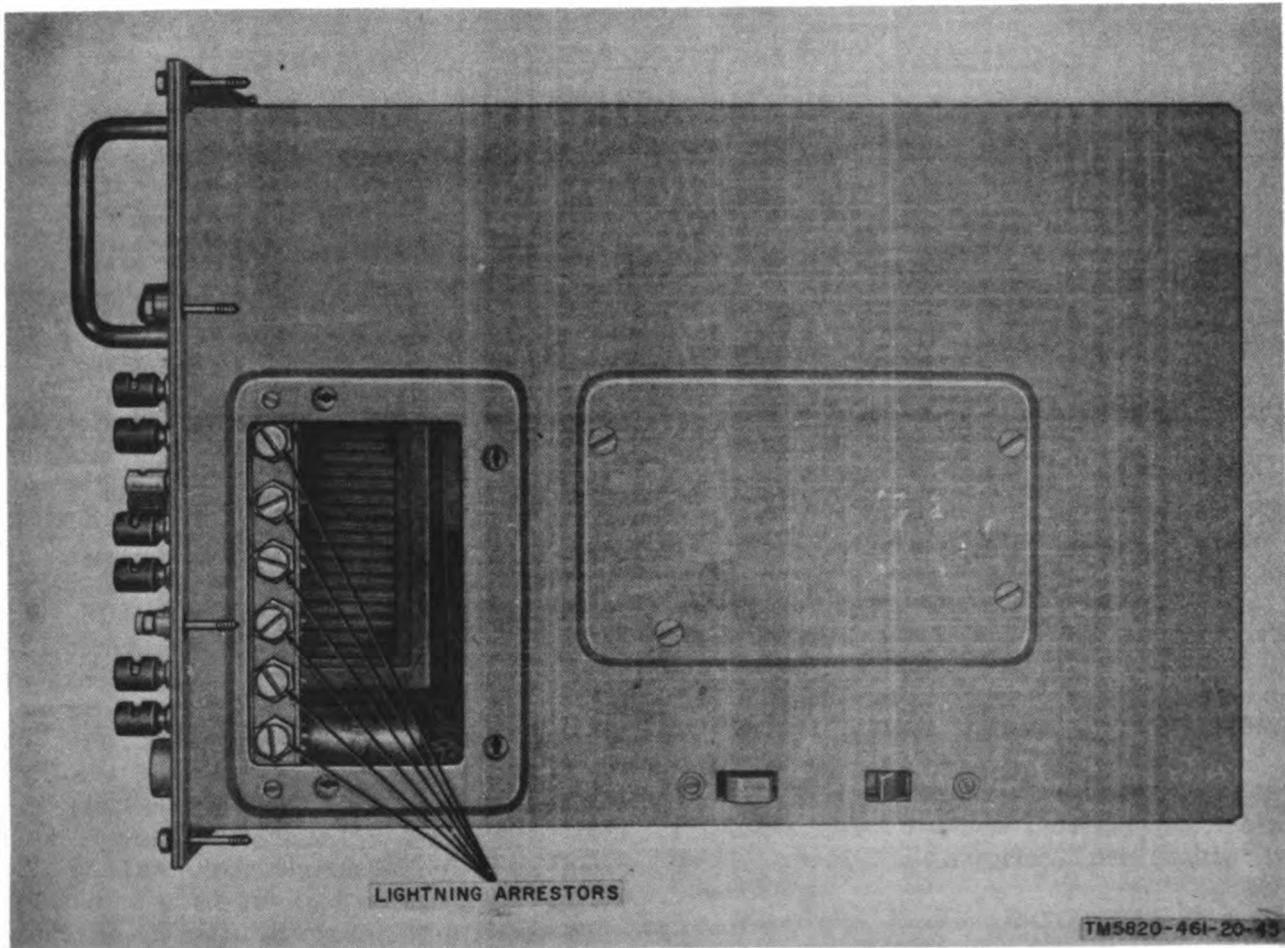

Figure 5-18. R-1148(P)/GRC or R-1331(\*)(P)/GRC,
Replacement of tube V1, V2, or V3 in the amplifier-oscillator, replacement of the amplifier-oscillator, tube current regulator assembly 2A6, or tube V4 in PP-2054(\*)/GRC will require adjustment of regulator resistors R14, R15, and R16. Refer to paragraph 5-13b for the procedures. Replacement procedure for plug-in assemblies is given in a below. Receiver lightning arresters protecting the fdm cable circuits are located at the input to baseband assembly 3A3 in the receiver (fig. 5-18). Procedures for their replacement are given in b below.
- (1) Remove any interconnecting cables.
- (2) Loosen the mounting hardware.
- (3) Grasp the assembly handles and pull the assembly straight up from the chassis.
- (4) Insert the new assembly. Check to see that the assembly is seated evenly on the chassis.
- (5) Tighten the mounting hardware.
- (6) Replace all interconnecting cables. Be sure that the cables have been connected to the proper receptacle.
b. *Replacement of Lightning Arresters (fig. 5-18).*
- (1) Loosen the attaching screws on the front of the receiver and slide the chassis about 6 inches out of the component case.
- (2) Remove the front access plate on the right side of the receiver chassis and inspect the interior wiring for charred insulation, broken connections, etc. If damage is extensive, higher category of maintenance is required.
- (3) Unscrew the lightning arresters and remove them.